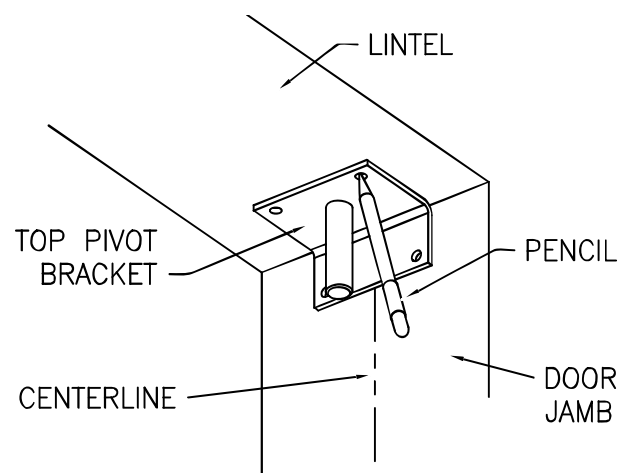

FIG. 2
-Centre top pivot bracket at top of door jamb and mark hole locations (Fig. 2).